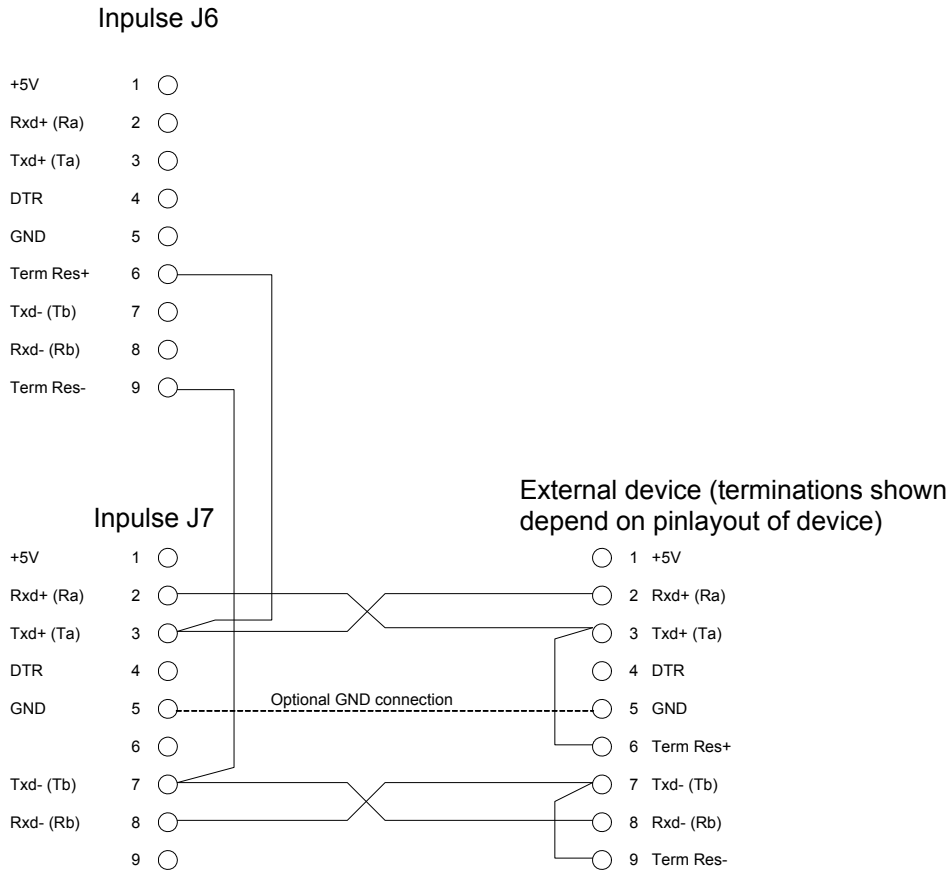

Figure 3-1. RS-422 Connections
- When using J7 as RS-422, the termination voltages are taken from J6. Here the Term+ is on pin 6 and the Term– is on pin 9 (see Figure 3-1).